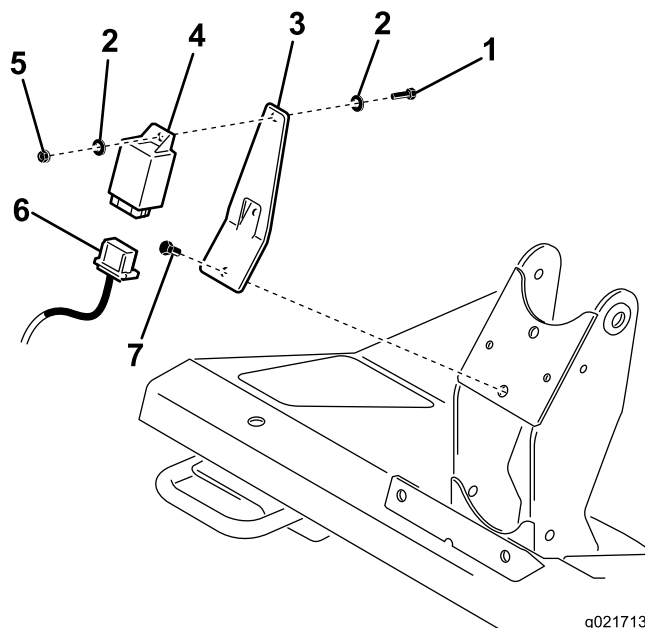

Figure 2
2. Secure the flasher mount to the steering tower with (2) screws (1/4 x 5/8 inch) and flange nuts (1/4 inch) (Figure 2).
3. Secure the flasher module to the mount with a machine screw (#10 x 5/8 inch), (2) flat washers (.216 x .500) and a lock nut (#10) (Figure 2).
5. Plug the connectors from the platform wire harness into the connectors from the flasher module, turn signal and hazard switches (Figure 2).